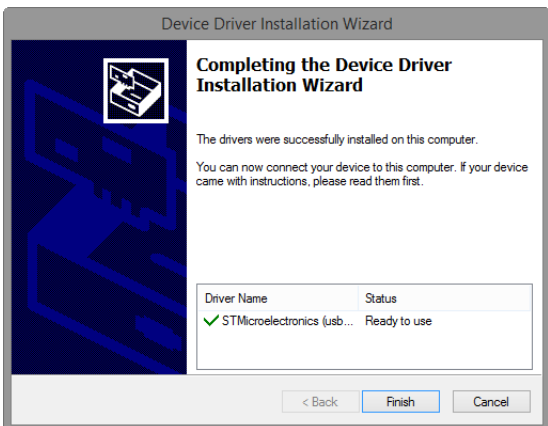

FIG. 26 Device Driver Installation Wizard (1 of 2) - Completing the Device Driver Installation Wizard dialog
4. Click **Next** to proceed (FIG. 26):